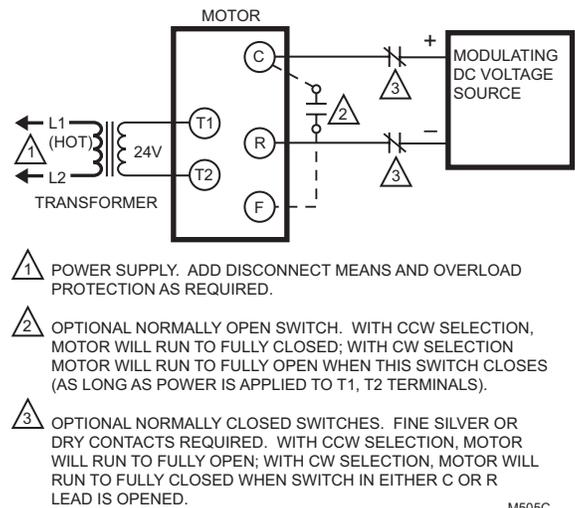

Fig. 3. Typical system wiring for Q7130A Interface Module and M91XX Modutrol Motor.
3. See Fig. 3 for typical system wiring.